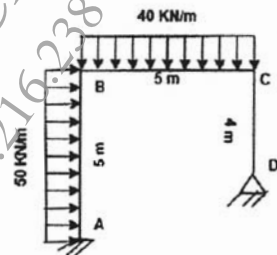

Figure 5
- Q4)** Calculate final end moments for the frame shown in figure 5 by moment distribution method and draw BMD. Assume uniform flexural rigidity. [18]